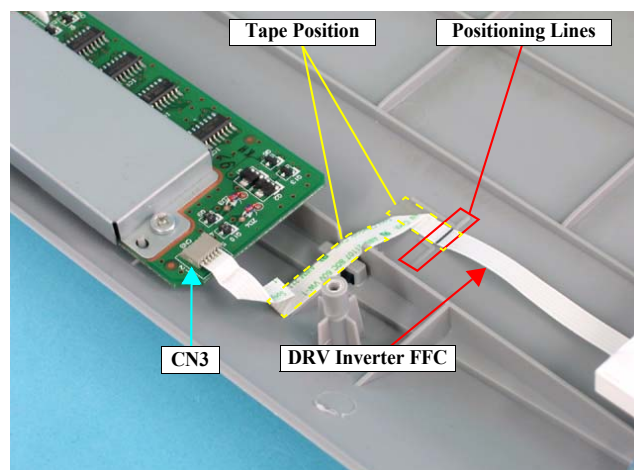

Figure 4-37. Removing the DRV Inverter FFC
- When installing the DRV Inverter FFC, make sure to align the positioning lines both on the FFC and the TPU Upper Housing as shown in Figure 4-37 before attaching the FFC with the two-sided tape.